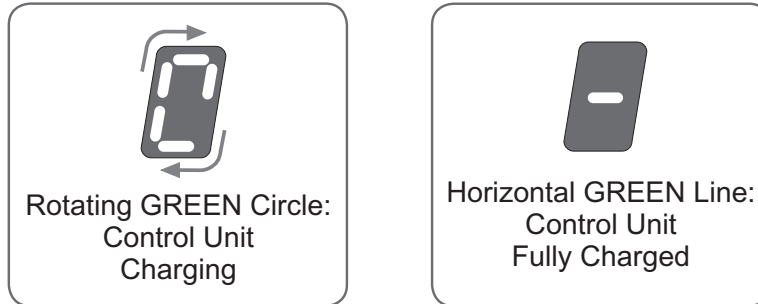

Figure 46: Control Unit charging displays.
5. The charging process will continue until a  horizontal GREEN line appears in the Control Unit digital display and the  status light on both RF Stim Units is solid GREEN. See figures 46 and 47. The charging process should last approximately three hours. The Control Unit and RF Stim Units can remain connected to the charger after charging is complete.